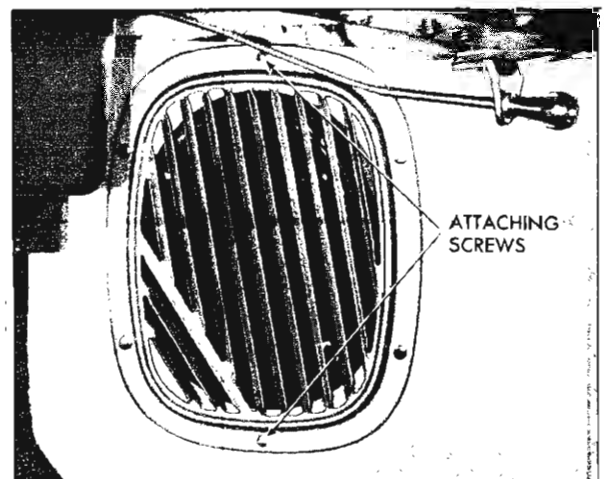

Fig. 2-13 Air Outlet Grille
1. Remove screws securing upper and lower end of air inlet grille (Fig. 2-13).